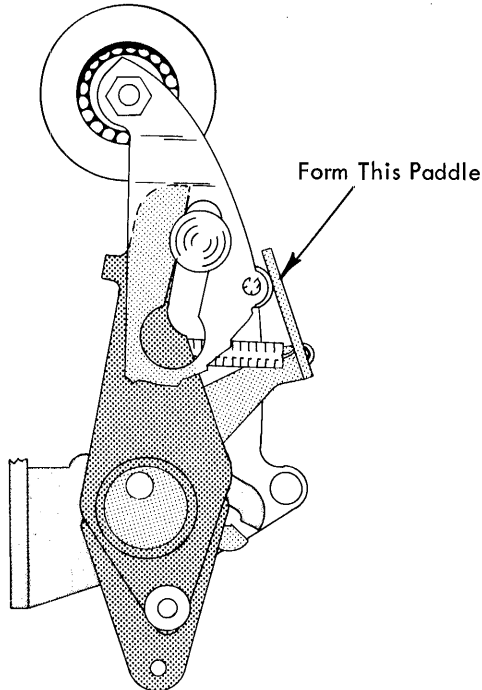

FIGURE 128. Arm Assembly In -3 Position
12. Ratio Change Adjustment - With the machine half-cycled under power to an upper case -3 character, form the paddle on the rotate eccentric arm until the upper case -3 character detents the same as the upper case -5 character. Each time the paddle (Fig. 128) is formed the machine must be recycled under power before observing the detenting of the -3 character. This allows the eccentric shoulder to reset itself in the compensating arm.